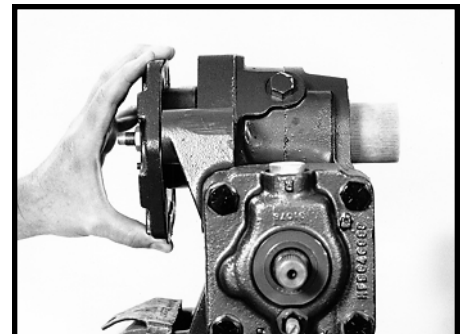

Figure 45
8. Begin to remove the side cover (58) and sector shaft (50) as an assembly. SEE FIGURE 45. Stop removal when the bearing rolls in the housing bearing (21) are half exposed. Coat the bearing rolls with grease. As a means of starting the removal of the side cover and sector shaft assembly, you may use a soft hammer or wooden hammer handle.